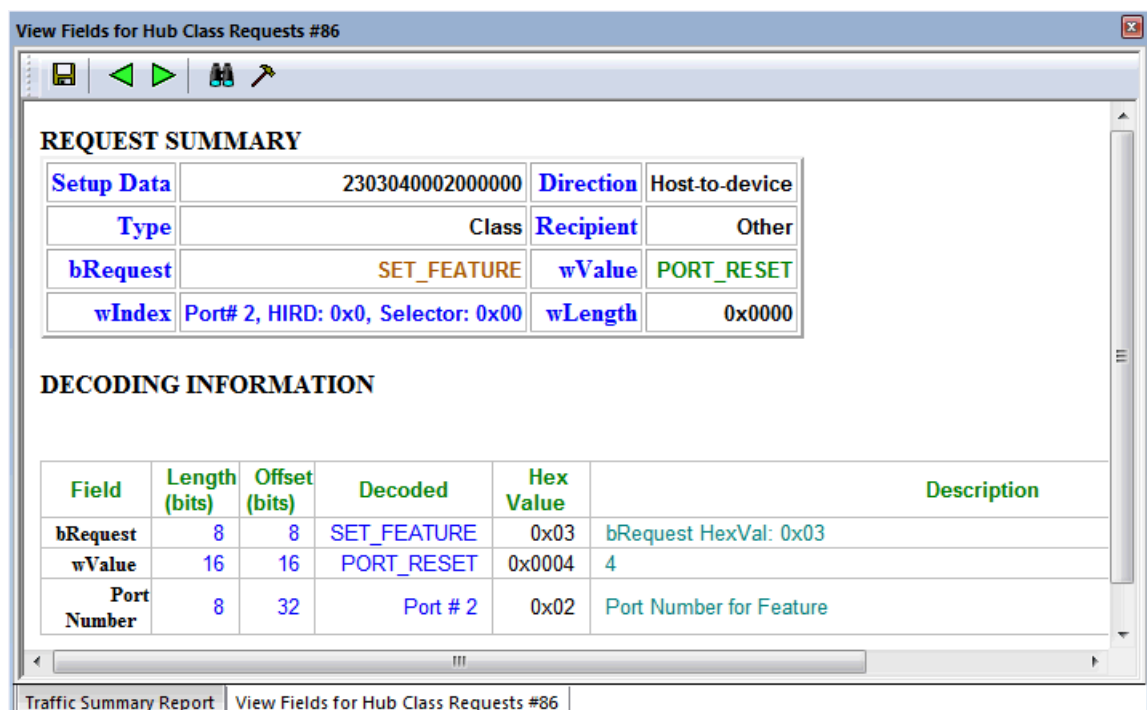

Figure 9.18: View Fields for Hub Class Requests Dialog
1. From the USB Device Request menu, select **Decode ... Request** to display the View Fields for ... Class Requests text box (see Figure 9.18 on page 551).